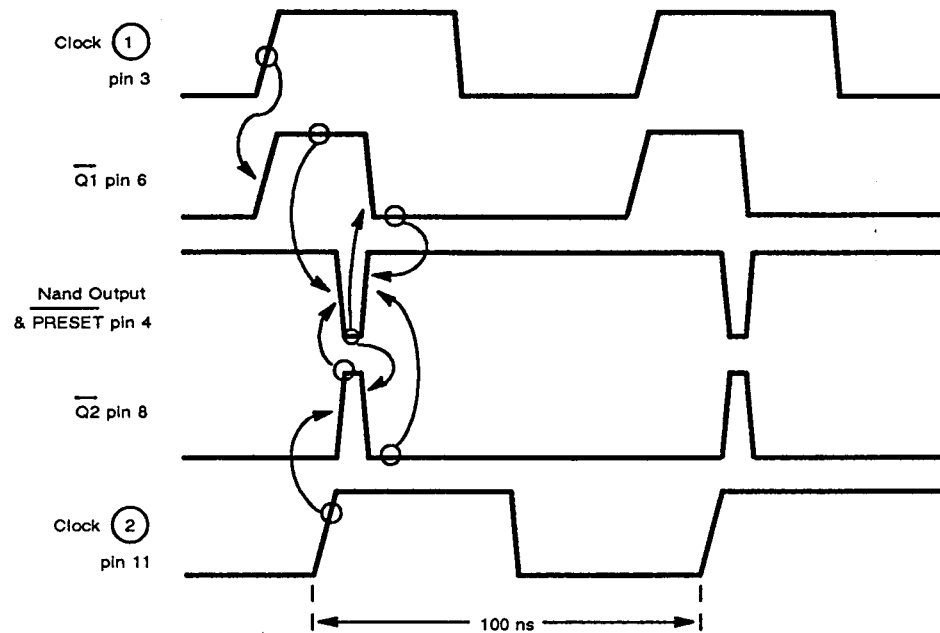

Fig. 5-18 160 MHz phase detector IC6, timing signals
95. **160 MHz loop.** Check that a 160 MHz signal is present at the junction of R2/C1. A signal within the range -20 dBm to 0 dBm should be sufficient to ensure correct divider operation, a greater or lesser signal will be likely to produce a fault condition. Expected voltages of this stage and the timing sequence of signals are given below. Figure 5-18 shows idealized timing waveforms around IC6. In practice delays are only those of TTL gates and the narrower pulses will not be seen to actually reach 0 V or +5 V.
Timing waveforms can be seen in Fig. 5-18.